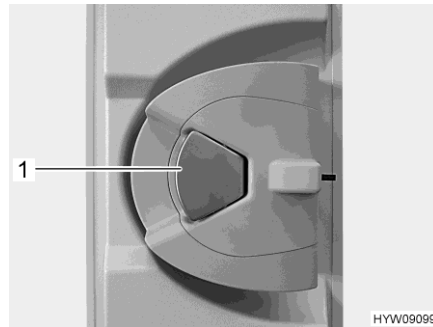

Fig. 17 Door lock (conversion door, inside)
- When the door lock is locked: Pull once at the door handle (Fig. 17,1). The door is unlocked.
- Pull on the door handle (Fig. 17,1). The door is open.
- Push the door handle (Fig. 17,1).